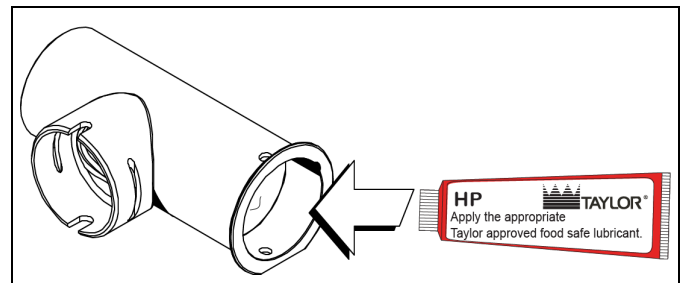

Figure 6-32
3. Apply a thin layer of lubricant to the inside of the pump cylinder at the retaining pin hole end. (See Figure 6-32.)